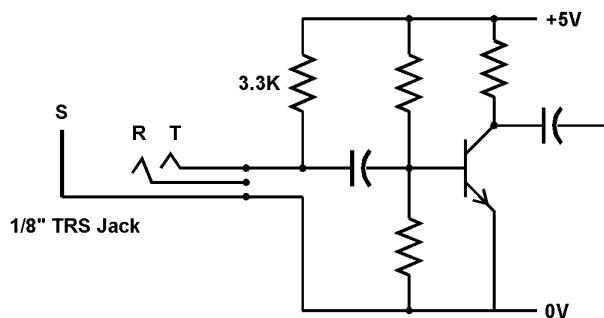
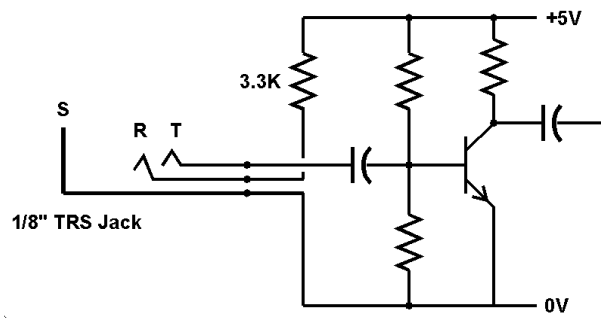

Fig A6-2a Conceptual Laptop Mic Input #1
Fig A6-2b Conceptual Laptop Mic Input #2
**Laptop Mic Inputs** vary widely, and those who have studied them extensively say there are no real standards. Fig A6-2a is the most common configuration. Fig A6-2b is another. The tip of the 1/8-inch connector is the mic input, with the connector shell as the return. The ring of the connector is +5VDC through a 3.3K resistor (measured on my IBM Thinkpad). Connect a dynamic mic between tip and sleeve. This worked perfectly on my IBM T22, but MY IBM T41 uses a somewhat different input circuit that was noisy and unstable with this simple connection. I tamed it by adding 0.22  $\mu$ F between tip and ring. An electret ham mic may work with audio to tip and power to ring. Or you may need to add resistance in series with the ring. Or you may need the capacitor. Or both.